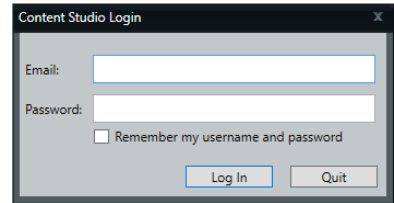

Figure 6: Launching Content Studio
2. Select **New Content Studio Presentation** from the **Upload** drop-down list. **Launch Content Studio** opens. Refer to **Figure 6**.